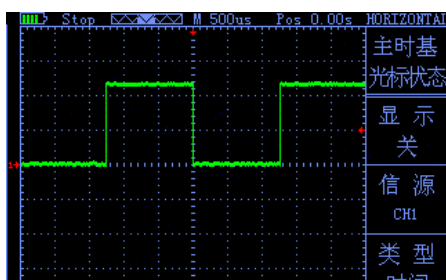
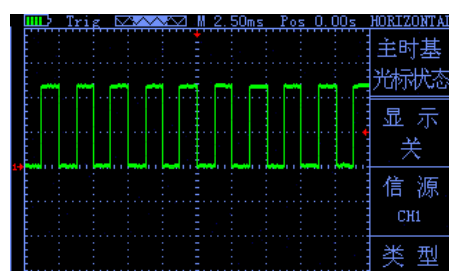

Figure 2-10
Figure 2-11
- Horizontal scale: Adjust the main group, press the "HORI" button, Press "or" " to change the scale of the level. To zoom in or out waveform. If you want to stop waveform acquisition, press the "RUN" key can be realized. As Figure 2-10, Figure 2-11